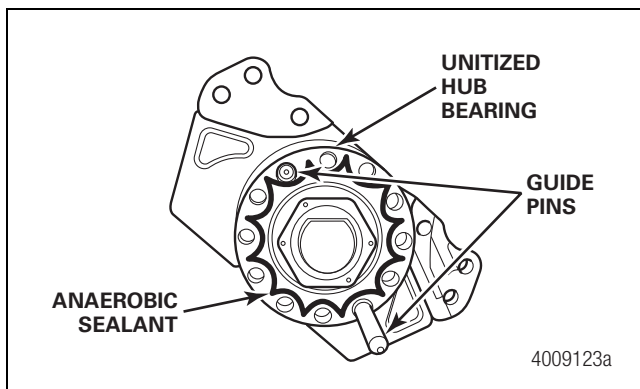

Figure 6.18
8. Install guide pins (optional) into the unitized hub bearing to aid in the alignment and installation of the rotor and wheel adapter. Refer to Section 11. Figure 6.18.